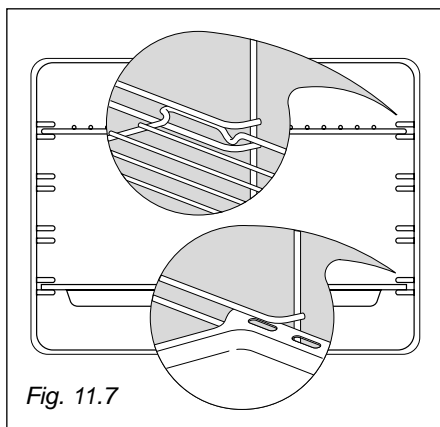

Fig. 11.7
- Slide the tray and rack into the runners fig. 11.7.